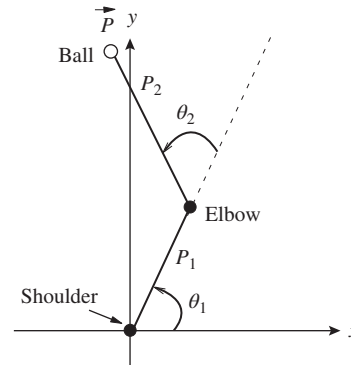

Figure P4.27 Position of the arm throwing a ball.
- Using the x - y coordinate system shown in Fig. P4.27, write the position of the ball $\vec{P} = \vec{P}_1 + \vec{P}_2$ in standard vector notation.